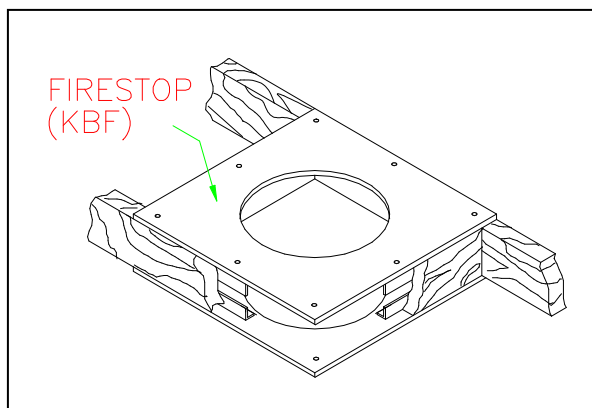

Figure 4
8. At each floor or ceiling through which the vent passes, install a firestop above the floor (Fig.4 & 6). **Note:** The joint between the outer casing and any firestop installed in a ceiling must be sealed with high temperature silicone caulking.
11. Install the rain cap (KC) on the end of the vent. **CAUTION:** Rain caps incorporating bird screens are necessary and/or required in some areas but may be susceptible to blockage through freezing moisture. It is important to check the rain cap for icing during low ambient temperatures. Consult authority having jurisdiction.